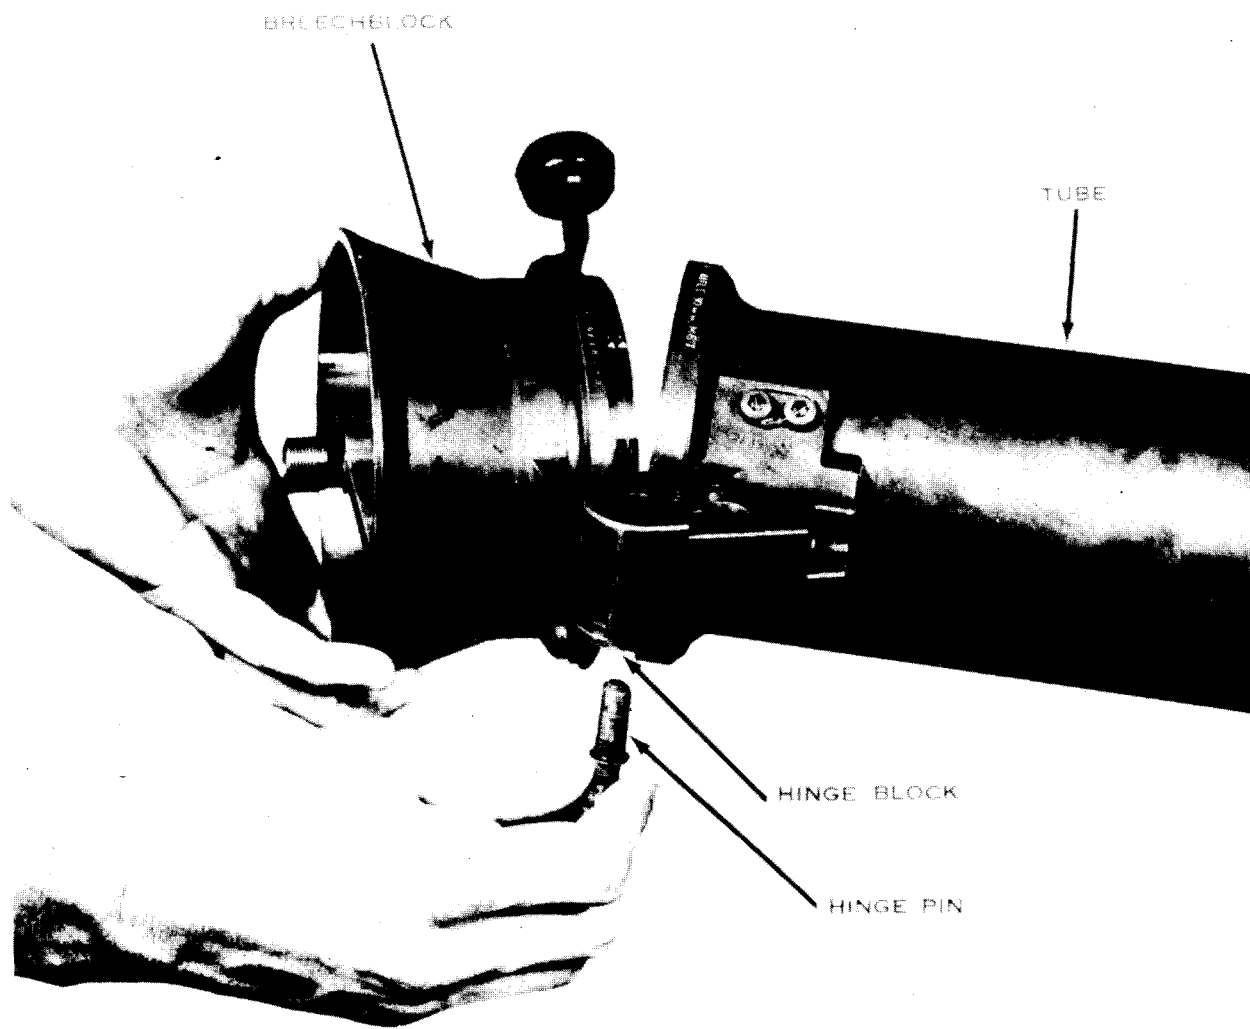

**Figure 9. Removing and installing the cable assembly.**
- (d) Pull the hinge block end of the cable assembly forward and remove it from the hinge block (fig. 9).